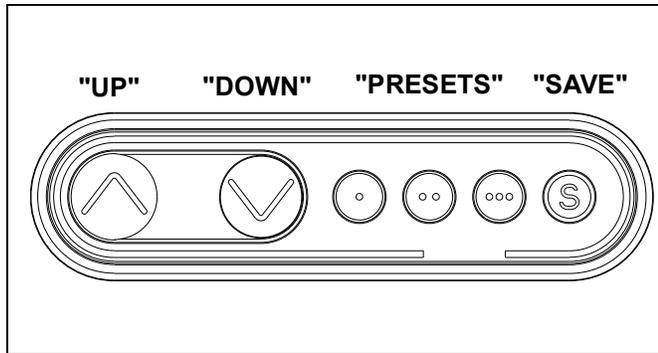

Figure 25
1. Press "UP" or "DOWN" buttons to raise or lower height as desired. (See Figure 25)
1. Adjust height until desired preset level is reached using "UP" and "DOWN" buttons. (See Figure 25)
2. Press "SAVE" button. (See Figure 25)
3. Press one of three preset buttons (., .. or ...) to save preset position. (See Figure 25)